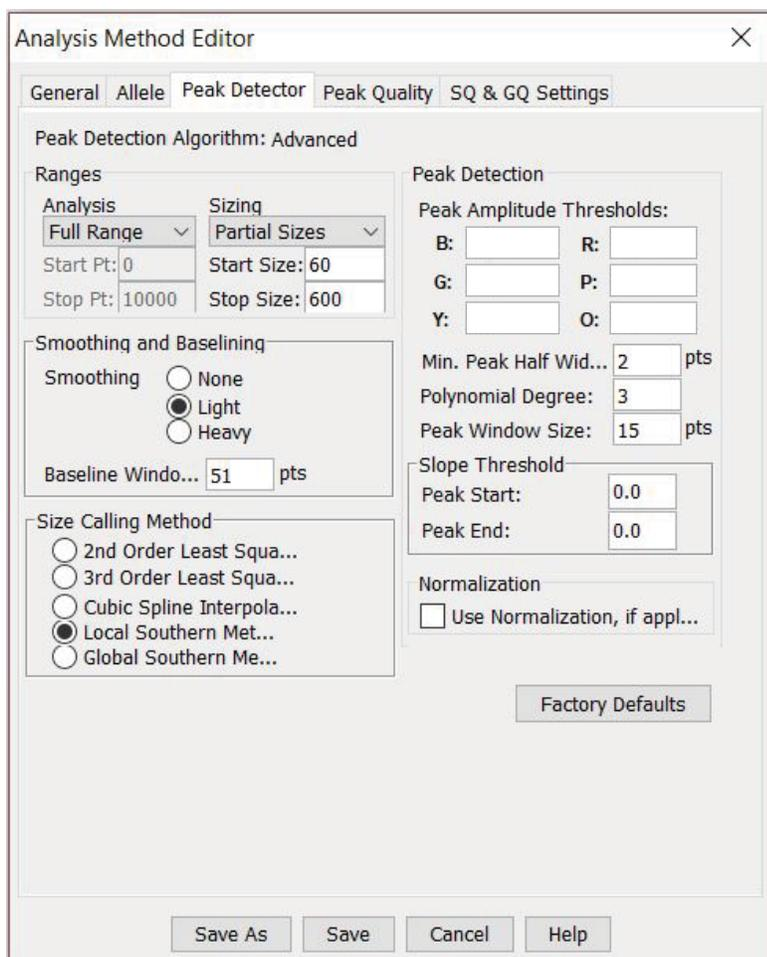

Figure 24. The GeneMapper® ID-X 'Peak Detector' tab.
9. Select the 'Peak Detector' tab (Figure 24). You will need to optimize these settings. In-house validation should be performed.